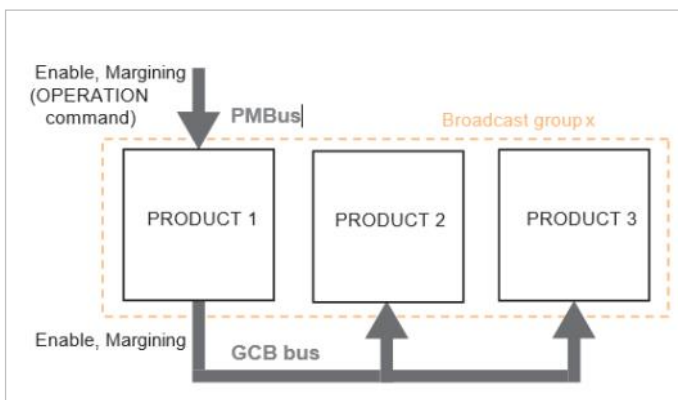

Figure 8. Enable or margining signal will broadcast on the GCB bus
- 2) PMBus enable. Sending a PMBus Enable or Margining command (OPERATION) to any of the devices in the group will enable the whole group, as the device will 'broadcast' an enable signal to the other devices over the GCB bus as shown in Figure 8.